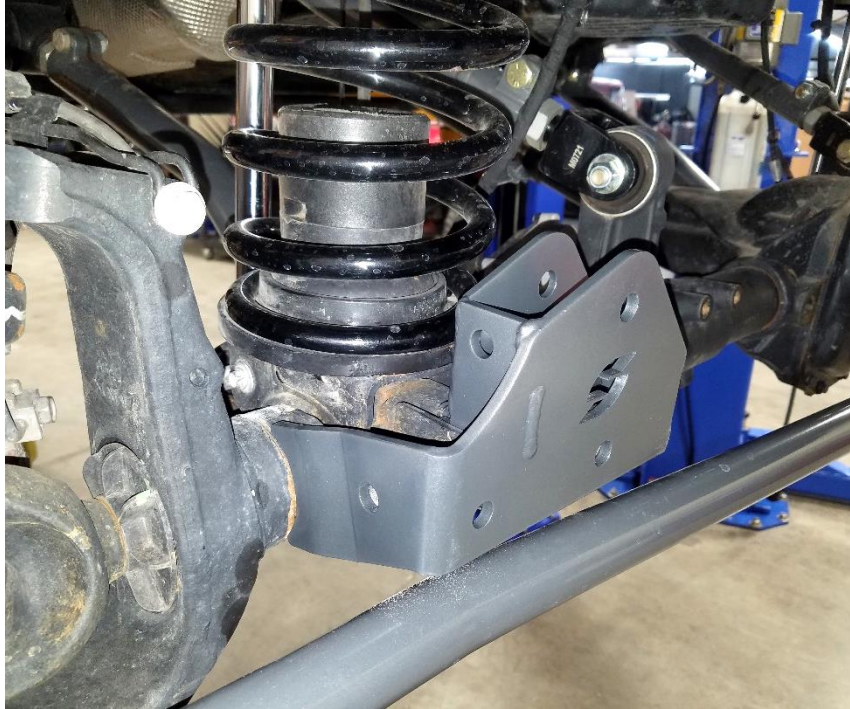

Figure 2. Synergy Bracket Loosely Installed on Axle
3. Place the Synergy Front Track Bar Bracket over the factory track bar mount on the front axle of the Jeep. The Synergy bracket should overlap the front of the factory mount and fit over the sway bar mounting tab. See **Figure 2**.